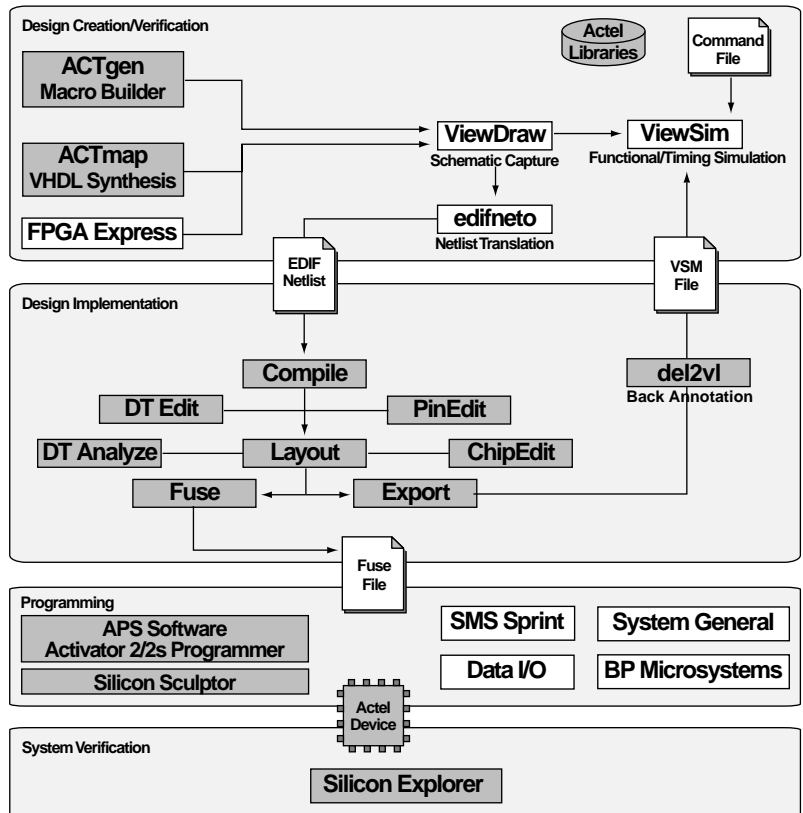

Figure 2-1. Actel-Viewlogic Schematic-Based Design Flow
Figure 2-1 shows the schematic-based design flow for creating an Actel device using the Workview Office and Designer Series software1.
1. Actel-specific utilities/tools are denoted by the grey boxes in Figure 2-1.